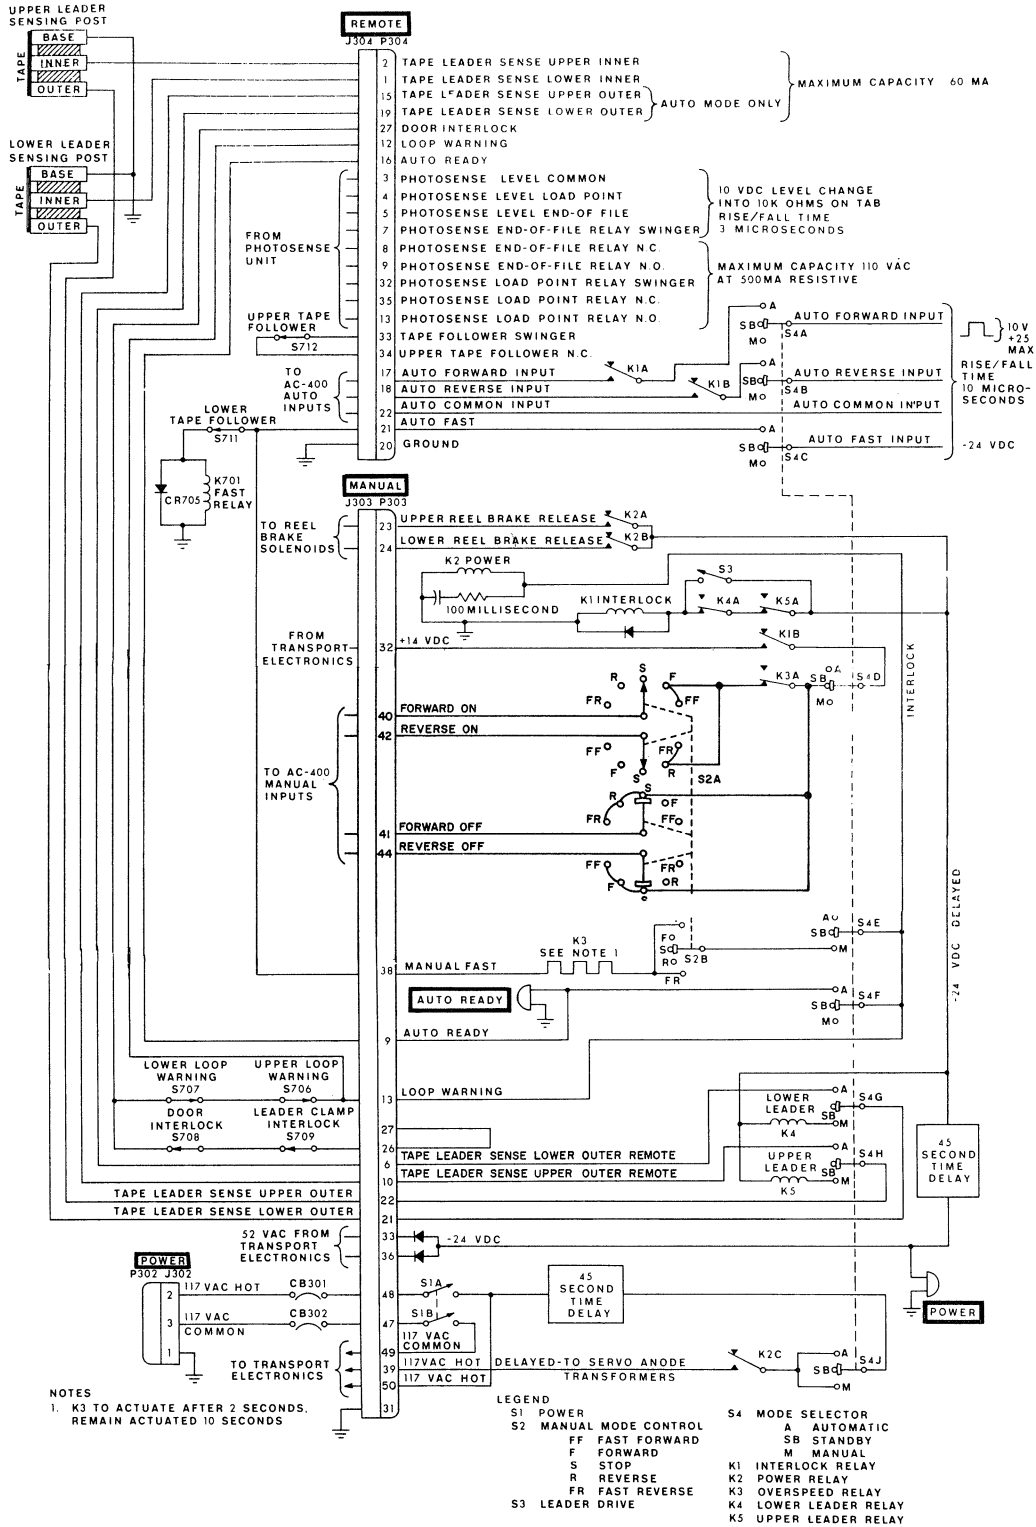

Figure 2-7. Typical Control Circuitry
Step 3: If a manual control panel is supplied, connect the cable captive to the manual control panel to J303 on the transport electronics assembly. If no manual control panel is supplied, suitable similar circuitry must be connected through J303; see Figure 2-7.
Step 4: If the tape transport is to be programmed from the tape control unit of a computer or other external source, connect this source to J304 and J305 on the transport electronics assembly. Mating connectors are supplied with the tape transport. Typical control circuitry is indicated in Figure 2-7.